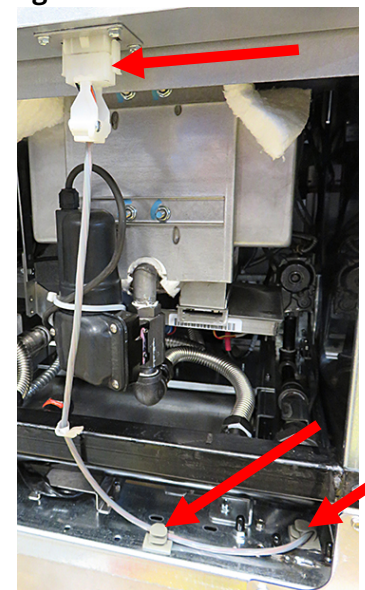

Figure 26
30. Route the cable under the rear manifold and securely attach the to connector on the bottom of the basket lift (see Figure 26).
31. Using supplied clamps secure the cable away from the manifold as shown (see Figure 26).
33. Once fryer has rebooted, wait one (1) additional minute and with the controller OFF, press the HOME button.
38. Press the down arrow button two (2) or three (3) times until BASKET LIFT is visible.